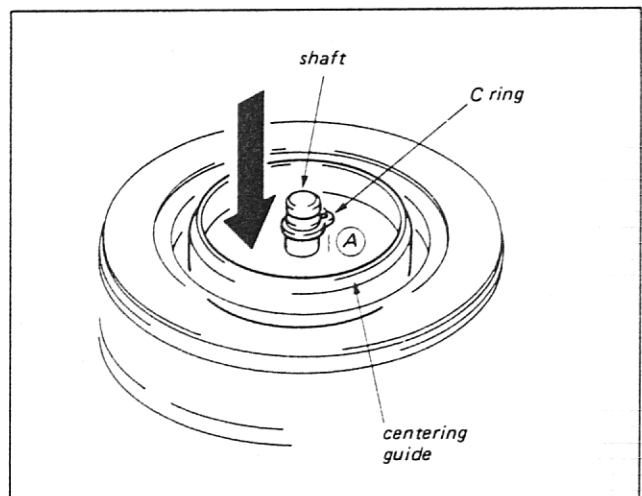

Fig. 7-2
When pressing the centering guide with the finger, confirm that the centering guide is lowered smoothly. If centering guide is not lowered smoothly, lubricate the shaft (A) portion in Fig. 7-2 with an extremely small amount of grease.